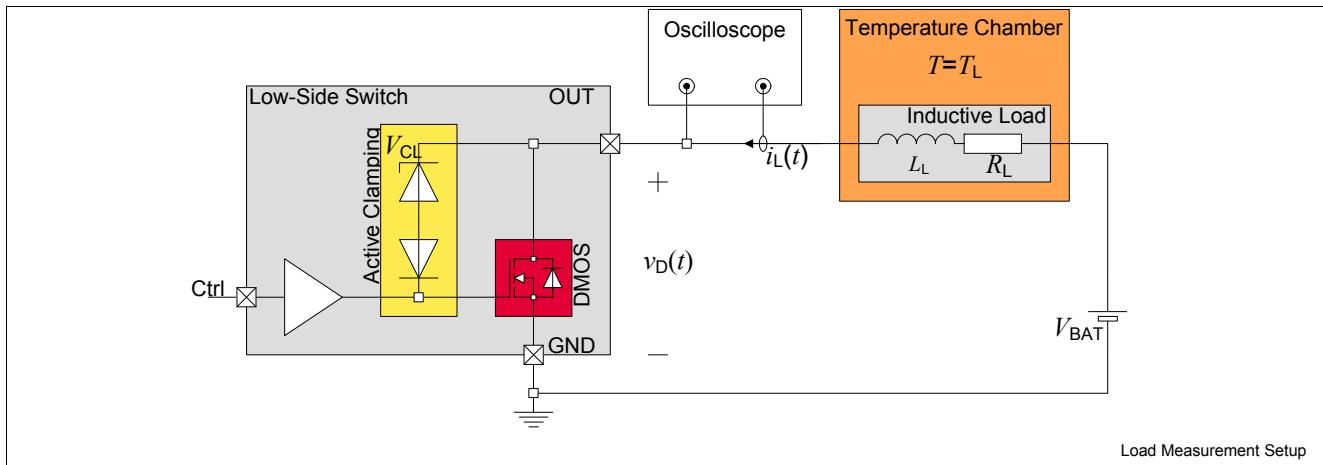
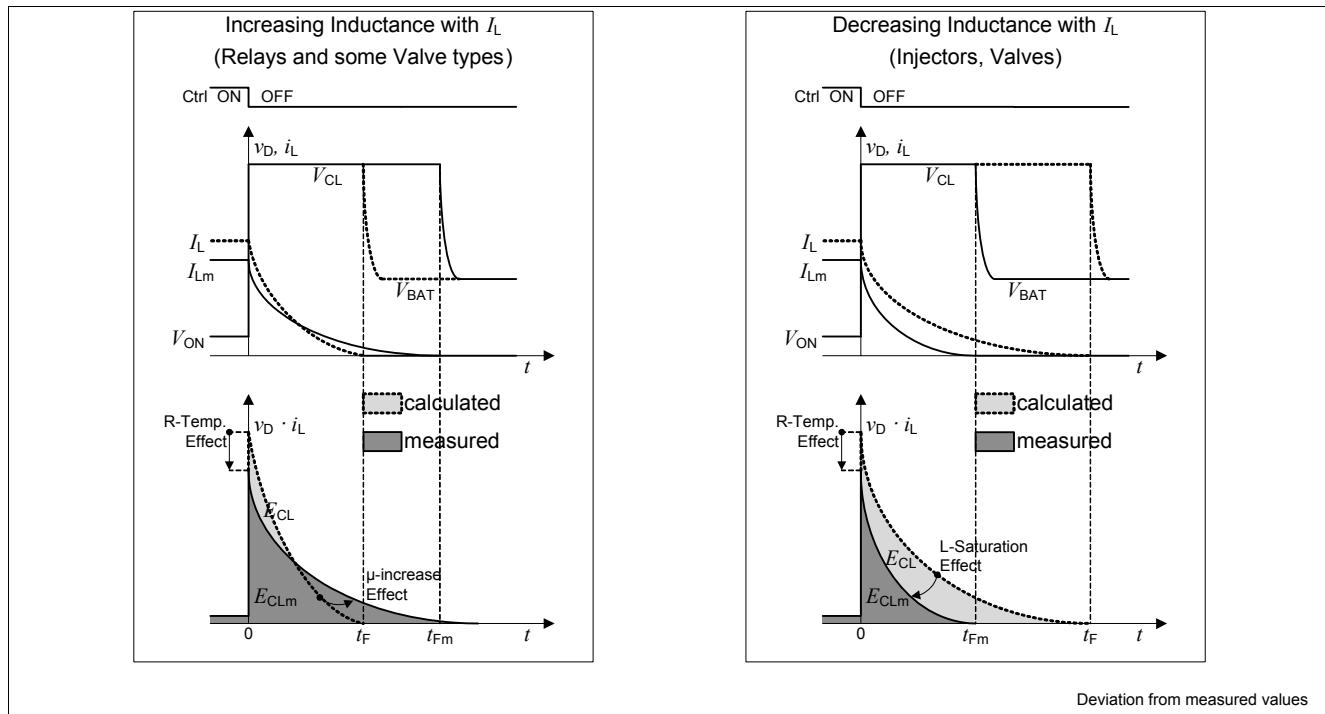

Figure 10  $E_{CL}$  measurement setup
Figure 11 Deviation of calculation from measurement
**Attention: It is strongly recommended to measure the load Energy and Current under operating conditions, example of measurement setup is shown in Figure 10. Load small-signal parameters might not reflect the real load behavior under operating conditions, see Figure 11. For more details please refer to the Application Note “Switching Inductive Loads”.**